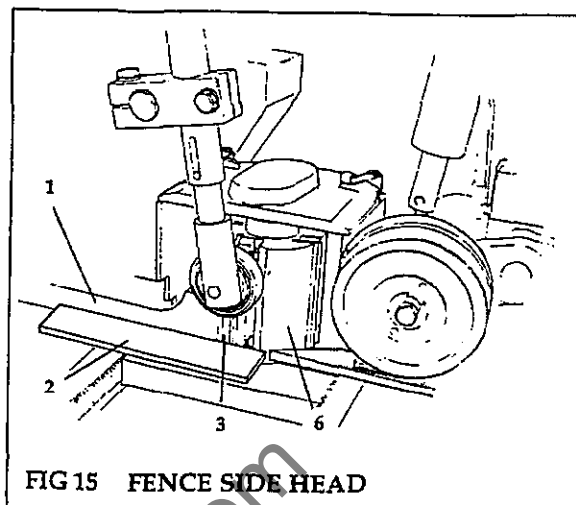
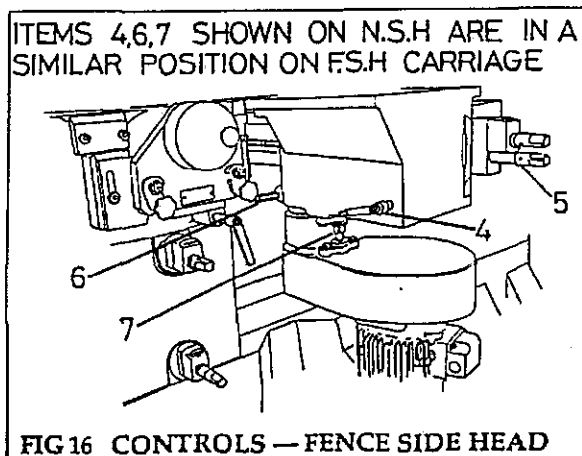

FIG 15 FENCE SIDE HEAD
FIG 16 CONTROLS - FENCE SIDE HEAD
First Fence Side Head (fig 15, fig 16)
- (1) Ensure that the machine bed is clean.
- (2) Place a straightedge (2) against the outfeed fence (1) and cutter (3). Set the spindle so that when rotated the knives lightly touch the straightedge (2) (fig 15).
- (3) To adjust the spindle laterally, proceed as follows: (fig 16).
- a. Release the locking handle (4).
b. Rotate the adjusting screw (5) clockwise to advance the spindle or anti-clockwise to retract the spindle.
c. Refasten the locking handle (4).
- (4) If necessary, set the height of the cutterblock as follows: (fig 16).
- Release the spindle barrel lock (6).
- Adjust the cutter height by rotating the adjusting screw (7) anti-clockwise to lower the spindle or clockwise to raise the spindle.
- Refasten the spindle barrel lock (6).
- (5) Adjust the fence nosepieces, before and after fence side head, to approximately 5mm clear of the maximum cutting circle of the cutterblock.